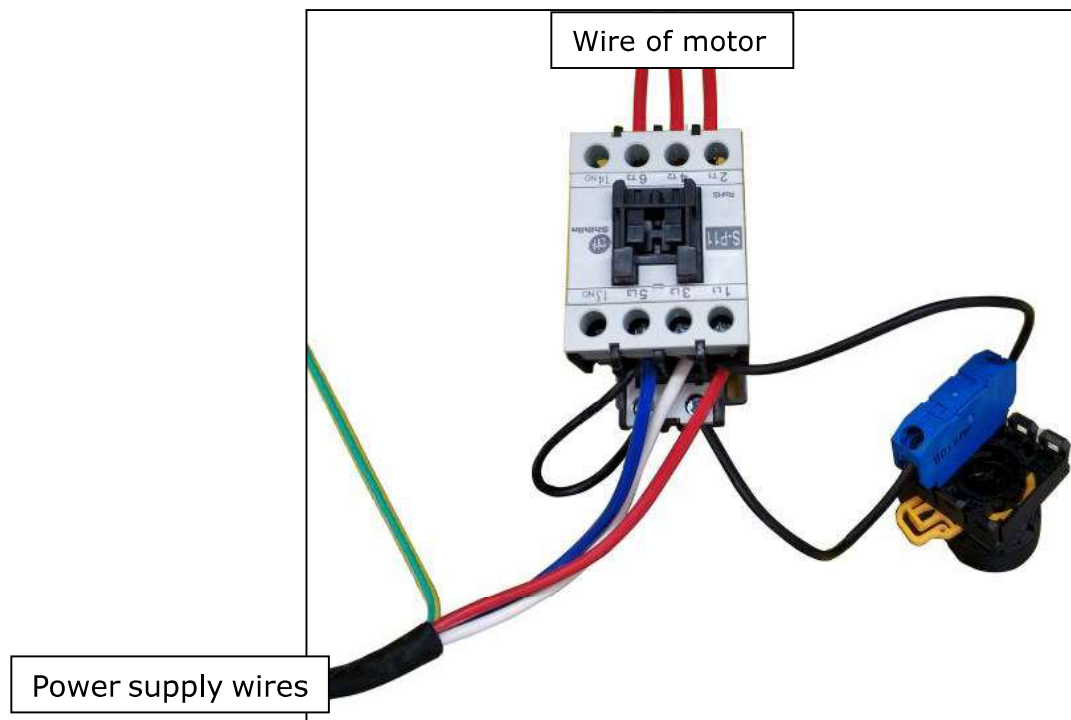

Fig.32
2. Connection step (See Fig. 32)